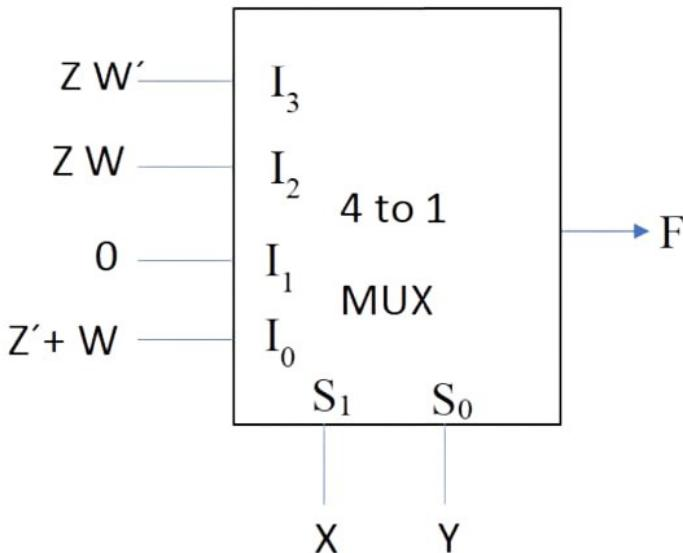

Fig. 4.26: Multiplexer
48. A 4×1 multiplexer with two selector lines is used to realize a Boolean function F having four Boolean variables X, Y, Z and W as shown below in Fig. 4.26. S_0